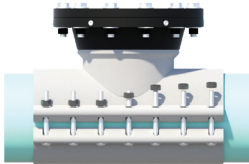
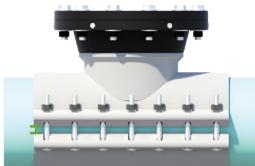

Figure 3
Figure 4
- 7) Install the bottom half of the line stop fitting over the tapered ends of the mat gasket ensuring they are flat and smooth against the pipe surface. Visually inspect gasket to ensure tapered ends are not folded or rolled under themselves. Install stainless steel bolts, washers, and nuts (see Figure 3). Finger tighten, ensuring gaps between top half and bottom half of the line stop fitting are the same front-to-back and side-to-side – within 1/8" (see Figure 4).